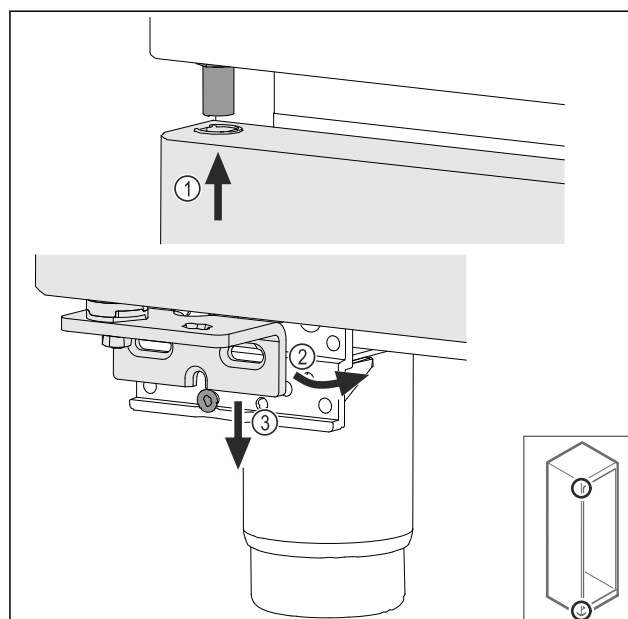

Fig. 37
- Insert the door slightly tilted at the top Fig. 37 (1), align the door straight Fig. 37 (2) and place it on the bottom of the swap bearing block screw Fig. 37 (3).